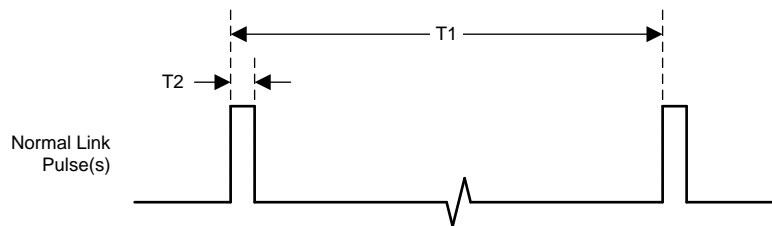

图 12. Normal Link Pulse(s) Timing
- (1) Ensured by production test, characterization or design.
(2) See 图 12.